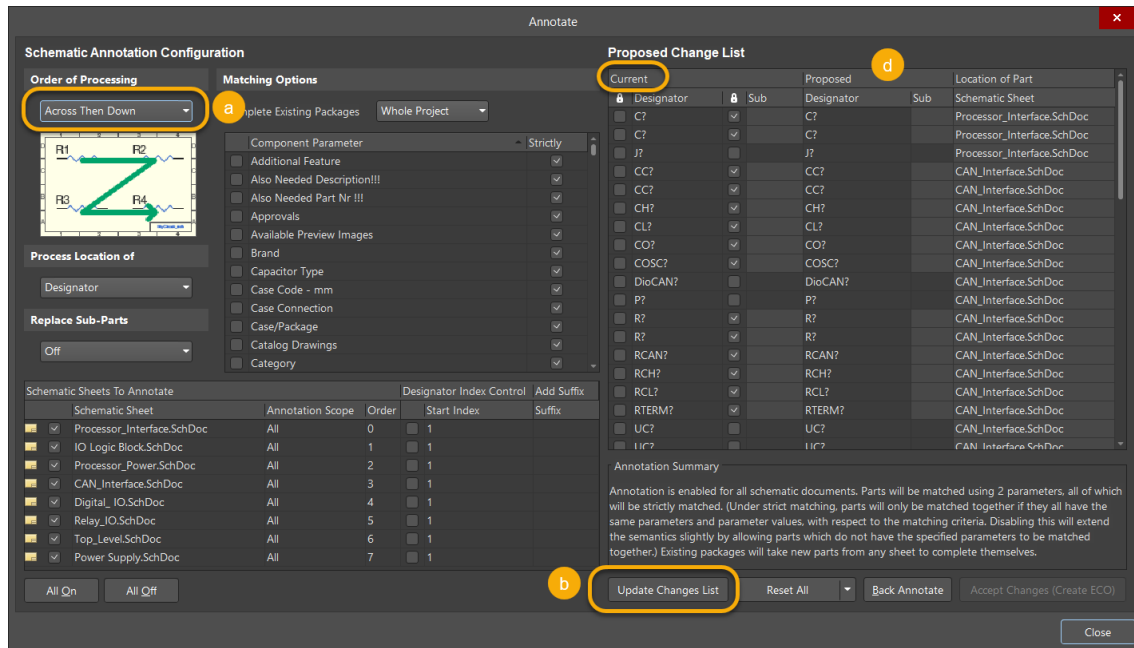

Figure 4. Annotate Dialog
20. Head to **Tools » Annotation » Annotate Schematics...** to open the *Annotate* dialog. The window shown in Figure 4 below will appear.